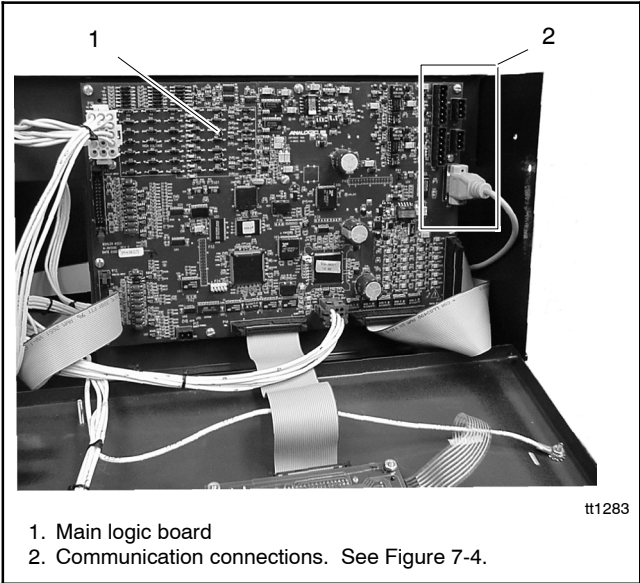
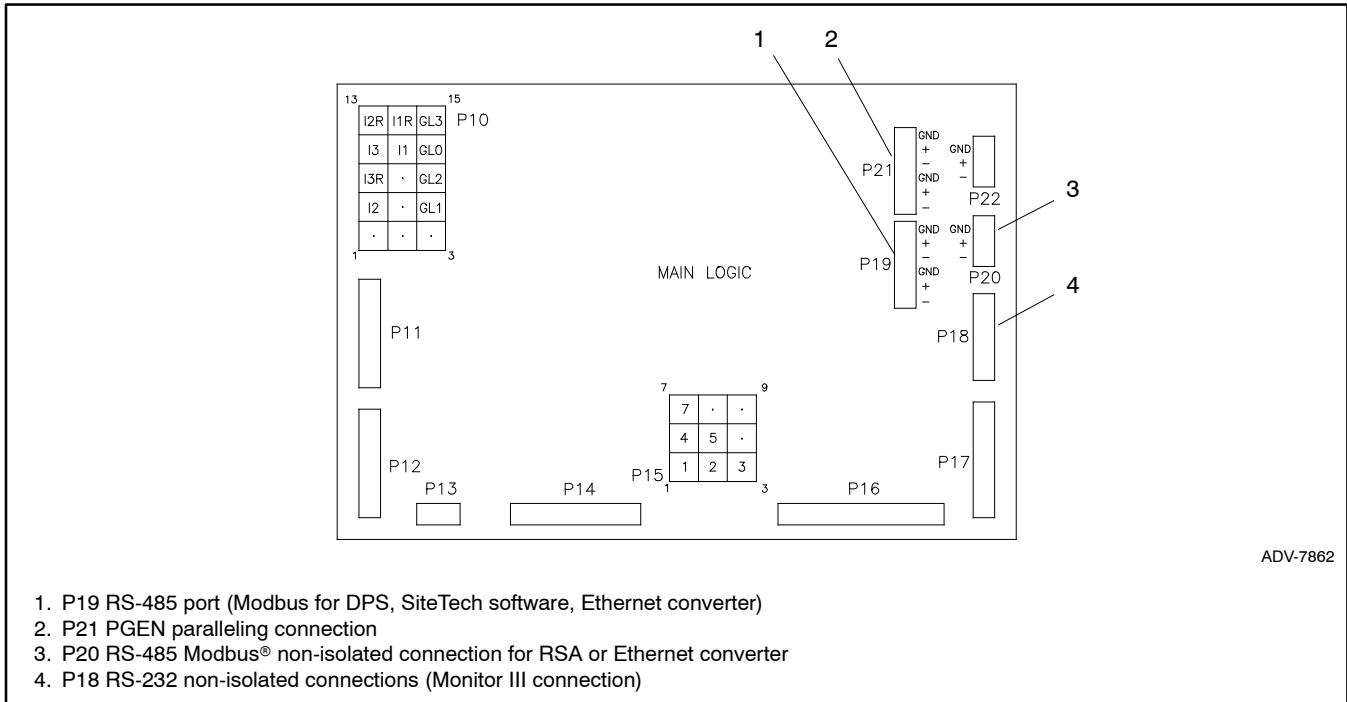

Figure 7-3 Communication Port Locations for Decision-Maker 6000 Generator Set Controller
Figure 7-4 Communication Connections Pin Identification
5. Open the enclosure and locate the connection ports as shown in Figure 7-3 and Figure 7-4.